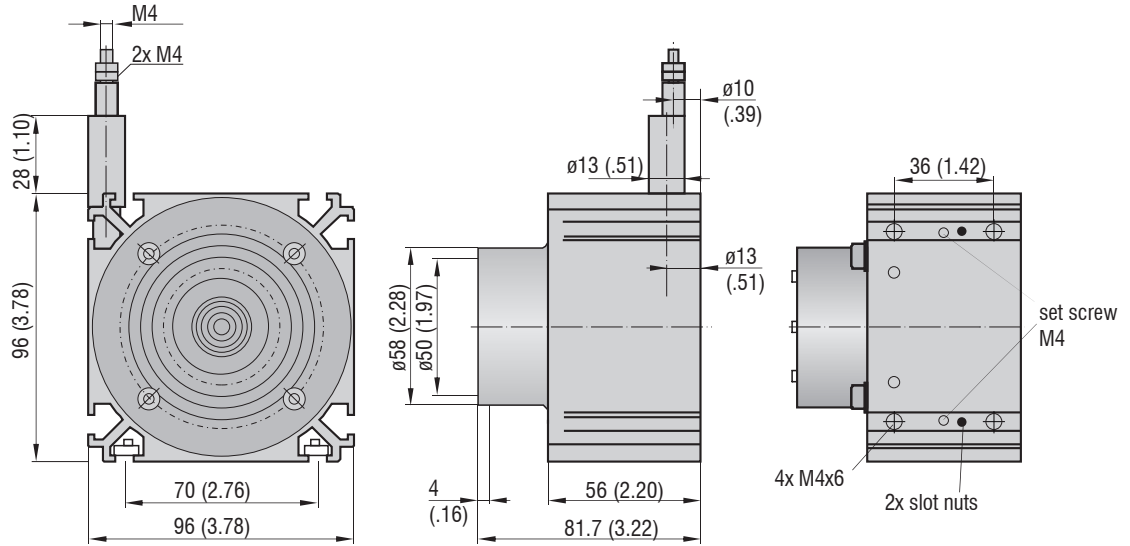

Fig. 5 WDS-P96-M series, dimensions in mm (inches)
- P96 series: 4x M6 DIN 931 and 2 slot nuts, see Fig. 5.